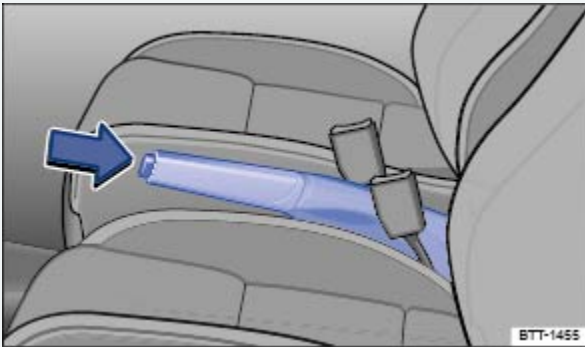

Fig. 145 Between the front seats: Parking brake.
- Pull the lever up slightly and press the release button ⇒ *Fig. 145* (arrow).